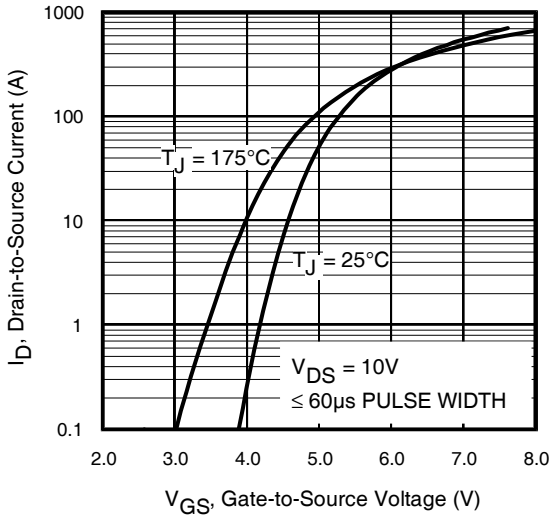
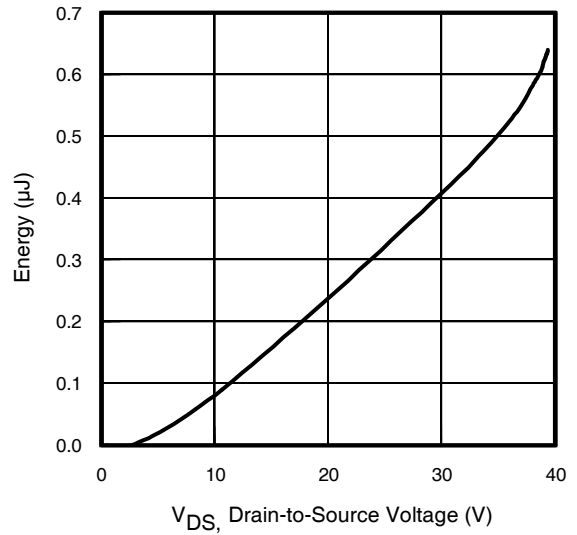

Fig 5. Typical Transfer Characteristics
Fig 12. Typical C_{OSS} Stored Energy
| C_{oss} | Output Capacitance | — | 690 | — | | $V_{GS} = 0\text{V}$ $V_{DS} = 25\text{V}$ $f = 1.0\text{ MHz}$, See Fig. 5 $V_{GS} = 0\text{V}$, $V_{DS} = 0\text{V}$ to 32V ⑦ See Fig. 12 $V_{GS} = 0\text{V}$, $V_{DS} = 0\text{V}$ to 32V ⑥ |